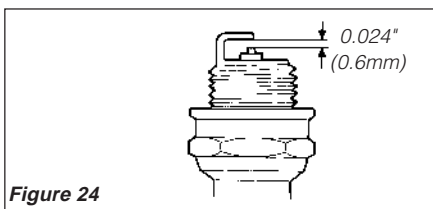

Figure 24
2. Clean the electrode with a wire brush. If necessary, adjust the electrode gap. The gap should be 0.024" (0.6mm). See Figure 24.